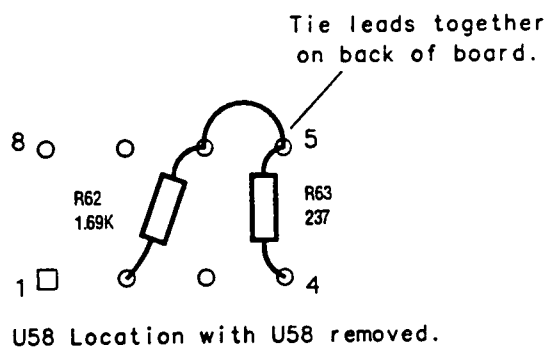

Figure 2. Location to add R62 and R63
7. Install R62 (1690 ohm) and R63 (237 ohm) in the U58 holes. Insure that the resistor leads are twisted and soldered between pins 5 and 6 on the back of the PC board (see Figure 2).